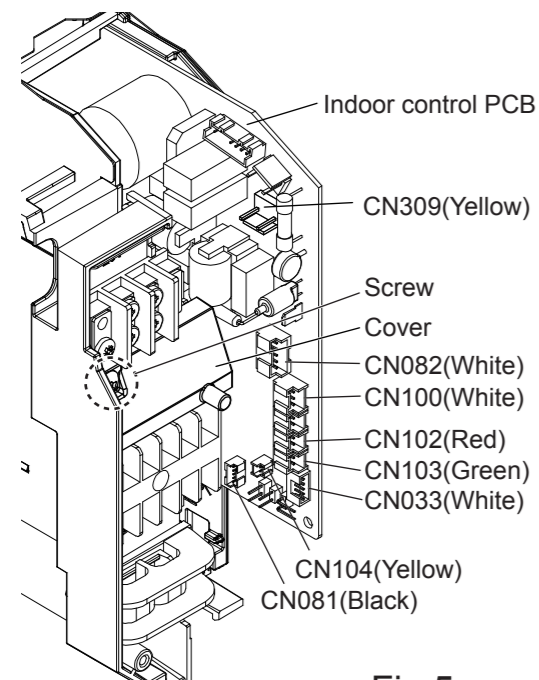

Fig.5
- Disconnect the CN033 (White), CN103 (Green), CN102 (Red), CN100 (White), CN082 (White), CN104 (Yellow) connectors from the indoor control PCB and take out the indoor control PCB. (Fig.5)
- Connect the 3P connector (yellow) of the power cables (supplied part ②) to the CN309 OP1 connector (yellow) on the indoor control PCB. (Fig.5)
- Connect the 5P connector (black) of the signal output cables (supplied part ③) to the CN081 3WAY connector (black) on the indoor control PCB. (Fig.5)
- Connect the removed connectors to their original positions on the indoor control PCB and insert the PCB. (Fig.5)
- Remove the screw and the cover.(Fig.5)
- Attach the screw and the cover.(Fig.5)